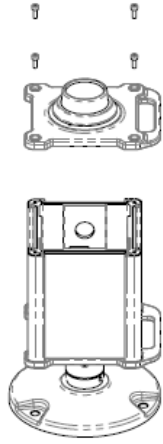

Figure 4-11
1. Unscrew four screws on the upper cover of the shell, take out it (Figure 4-11) and loosen the connecting cable relating to the circuit board.